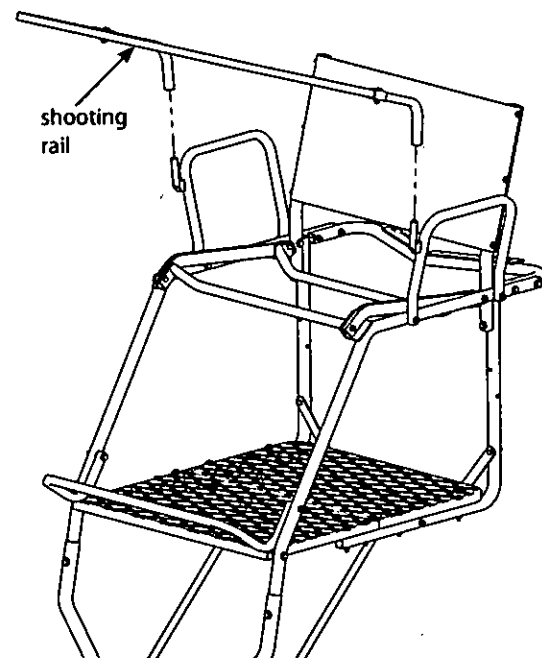

Figure 13
- 18.a. Attach the removable shooting rail by setting rail down over studs provided on armrests **SEE FIGURE 13.** Lubrication is recommended to prevent binding and noise.
- b. Attach the (2) provided 9" and (1) provided 54" camo foam pads to the armrests and shooting rail by wrapping around tubing and attaching Velcro together.